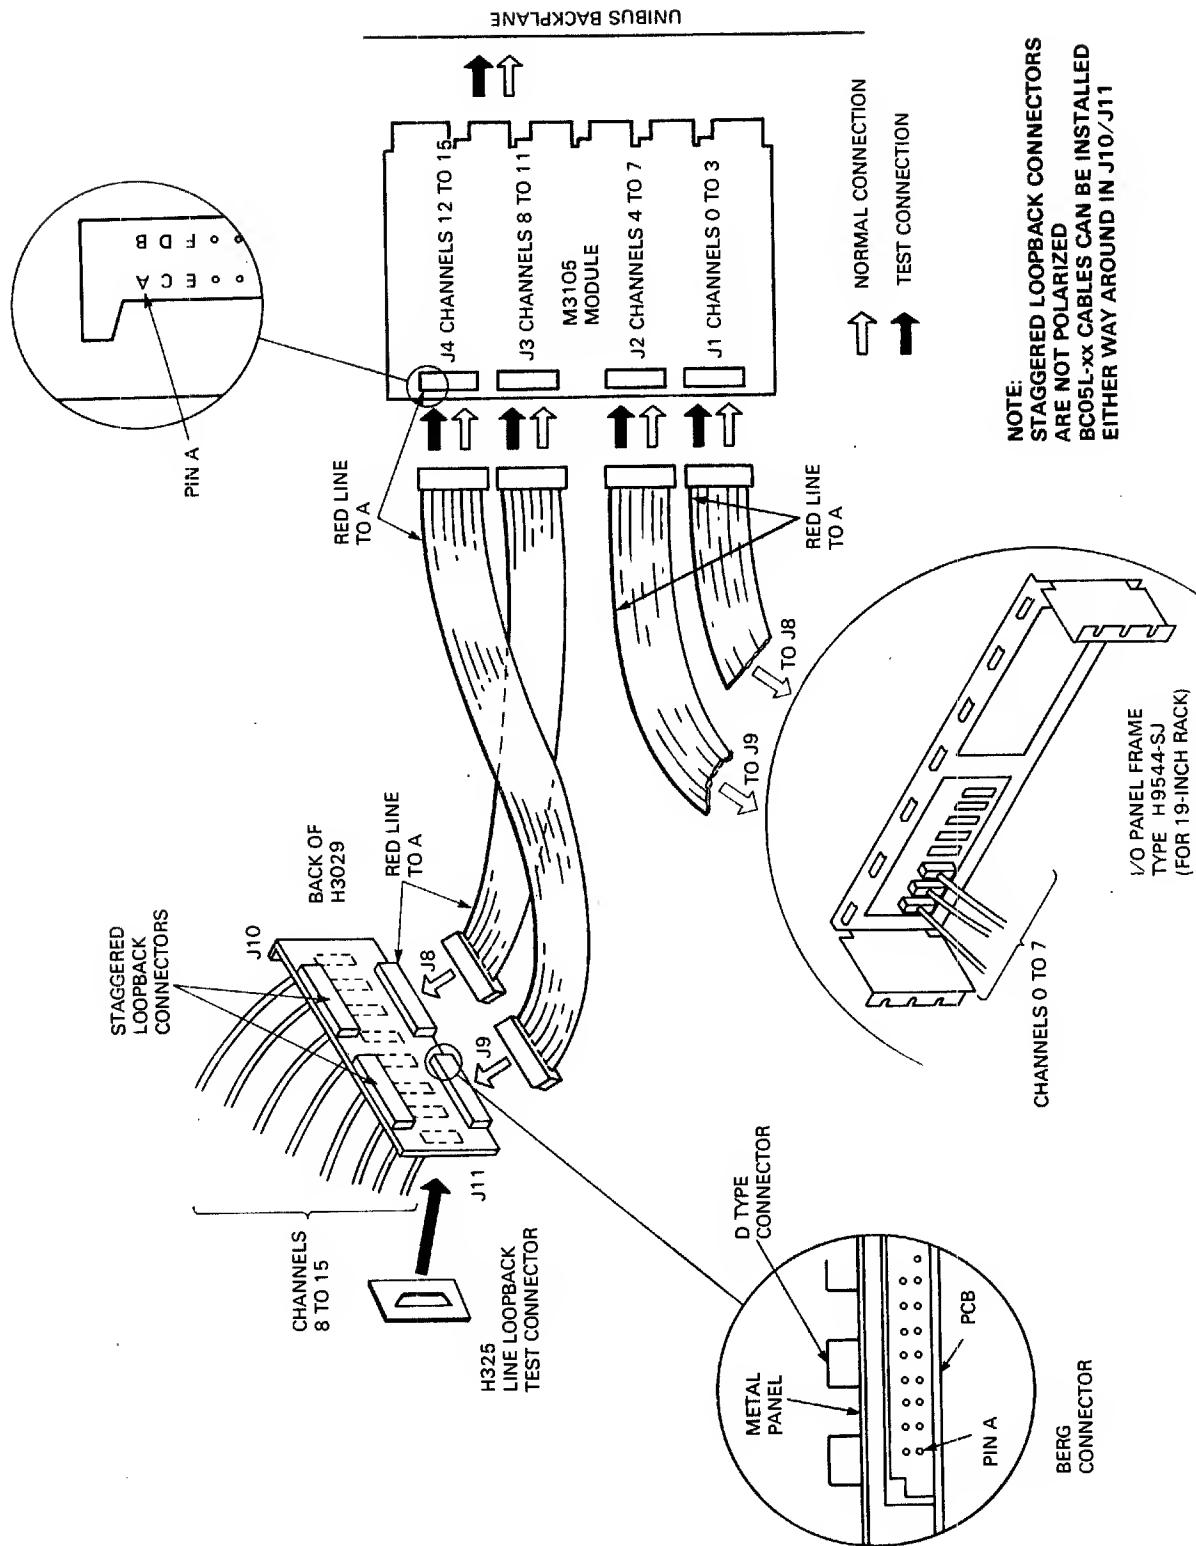

Figure 2-2 DHU11 Installation
2. Using Figures 2-2 and 1-3 as a guide, install the option.
Figure 2-2 shows how to install distribution panels in the H9544-SJ frame. This frame forms part of the 19-in rack-mounting kit, CK-DHU11-A1, which is listed in Section 2.2.